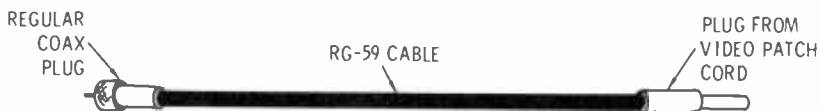

Fig. 11-15. A scope cable made with RG/59 coax cable and the plug from a regular video patch cord.
3. An excellent scope cable for test purposes, especially for measuring right in the jack field, can be made from RG-59 coaxial cable. On one end of this cable, mount a regular male coaxial cable connector. On the other end, use the plug from a regular video patch cord (Fig. 11-15). Now you can plug directly into the jack field and will have a termination available at the scope, if needed. Since you tore up a video patch cord, you still have one plug left over. Make up another one of the cables described above. This can be used to feed such things as a sweep generator directly into the jack field.